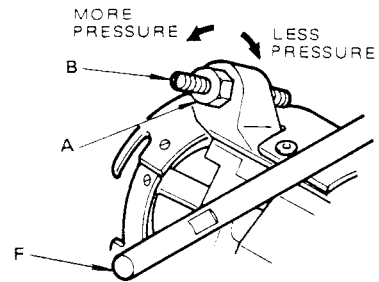

Fig. 51
- ☆ To replace the knife (Figs. 51, 52 and 54)